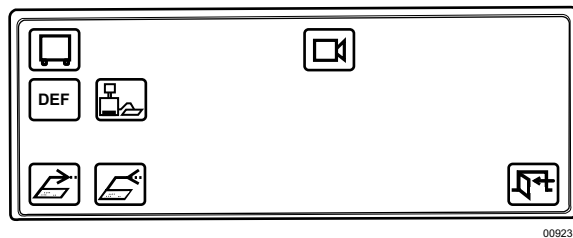

Figure 31. Database Menu
1. Select  from Define Menu 2 to bring up the Database Menu. See Figure 31.